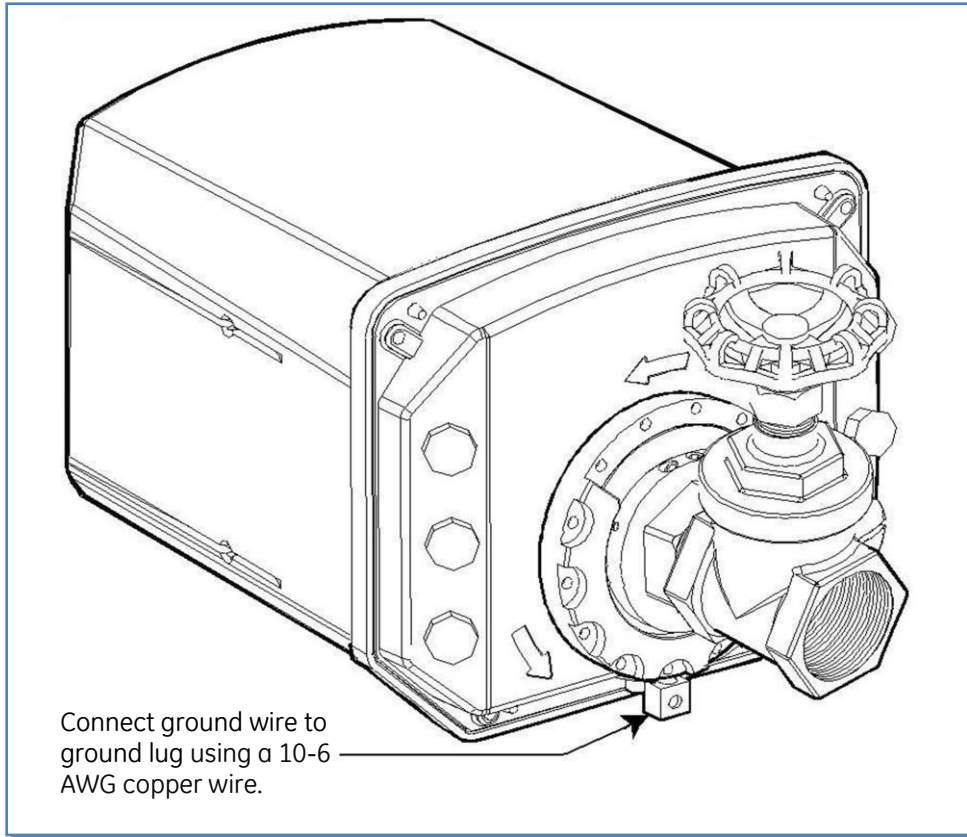

Figure 5-10: Grounding the Hydran M2-X Enclosure
1. Connect a ground wire to the Hydran M2-X's external ground lug (see Figure 5-10), using a 10-6 AWG copper wire.